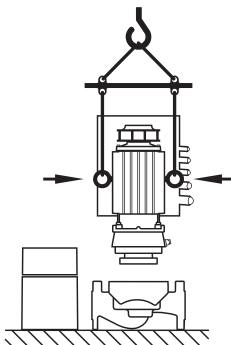

Fig. 24: Transport of the motor impeller unit
- **If the transport eyes have been moved from the motor flange and installed at the motor housing, then they are only approved for carrying or transporting the motor impeller unit (Fig. 24) and not for transport of the whole pump and not for separation of the motor impeller unit from the pump housing (pay attention to the previous dismantling and subsequent installation of the spacer).**